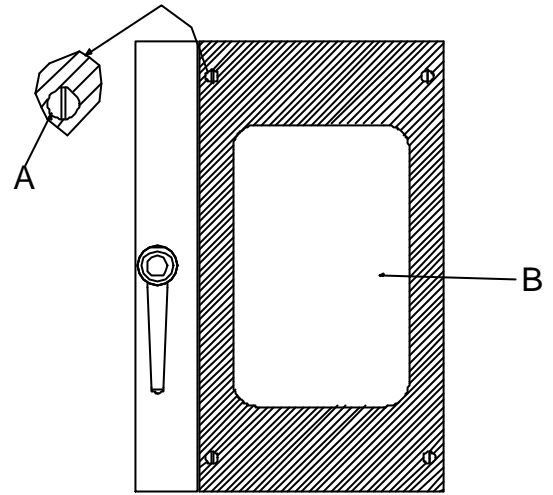

Figure 5c
- Open the glass by unscrewing the two screws (item A fig. 5c) on the handle side with the "open" writing on them and rotate the plate. Remove the three visible screws on the support (closing side) and extract the lamp holder parabolic support. The lamps can now be reached. Considering that they are halogen lamps, they must be replaced very carefully, following the instructions given by the lamp manufacturer. Both when opening the door and when assembling the lamps, be particularly careful so as to avoid traction or squeezing stress on the power supply wires of the lamps.